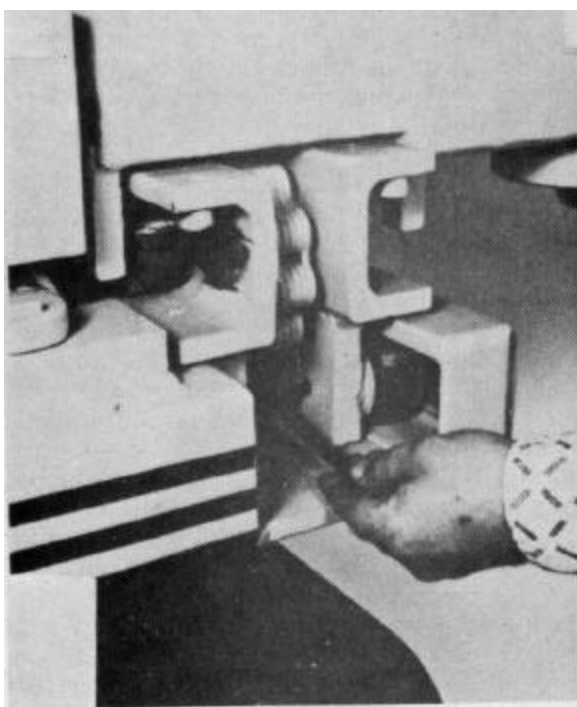

Figure 5-109
4. Shift the front end assembly fully to the right. The access hole for the adjusting screw on the right front roller of the telescoping assembly is now visible. It is inside the front roller support plate, beneath the leaf chain. Fig. 5-109 shows a set screw wrench inserted.